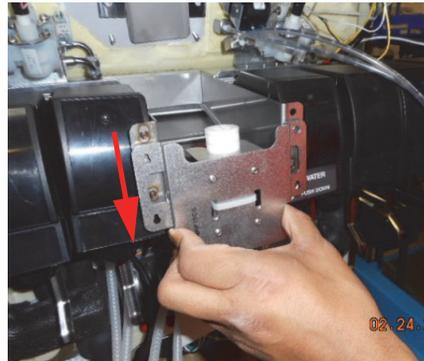

Figure 12B.
10. Slide the nozzle down on the bosses, as shown in Figure 12B. Secure Nozzle in position with 2 thumb screws.